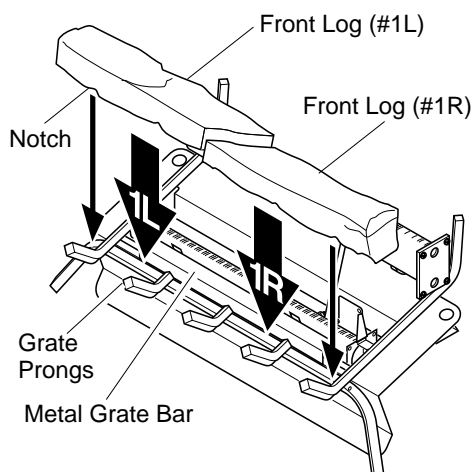

Figure 23 - Installing Front Logs (#1L and #1R)
1. Place front logs (#1L and #1R) on top of the grate. Make sure the notches in the bottom of the logs fit over the grate prongs (see Figure 23). Push back of logs flush with metal grate bar. *Note:* 18" model has only one front log.